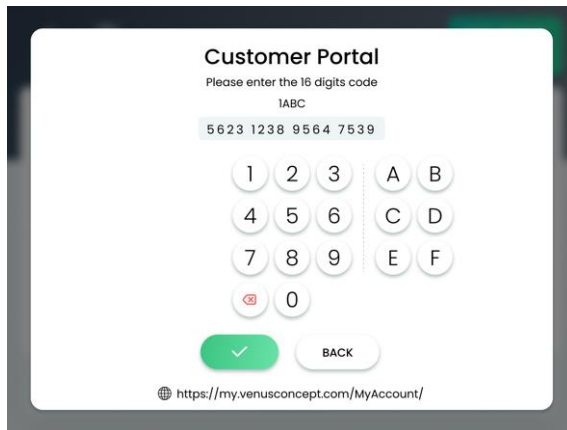

Figure 6-15. Customer Portal Screen
3. From the Settings screen, press the **Activate** icon, as shown in Table 6-1; the Customer Portal screen appears, as shown in Figure 6-15.